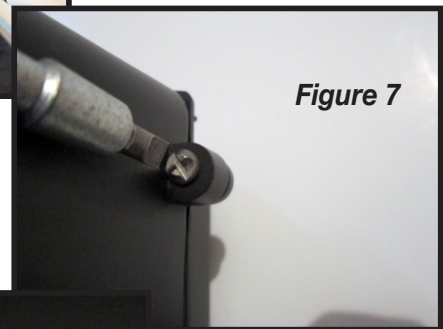
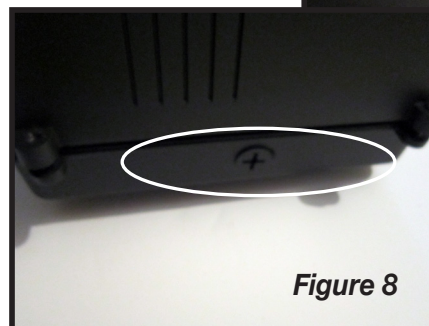

Figure 7
Figure 8
- 6) Close enclosure cover being certain that no wires are pinched and are free of the cover. Using the 2 – One way tamper resistant screws, secure enclosure cover. See FIGURE 7. Place the "No Serviceable Components" sticker on side of enclosure in area shown in FIGURE 8.